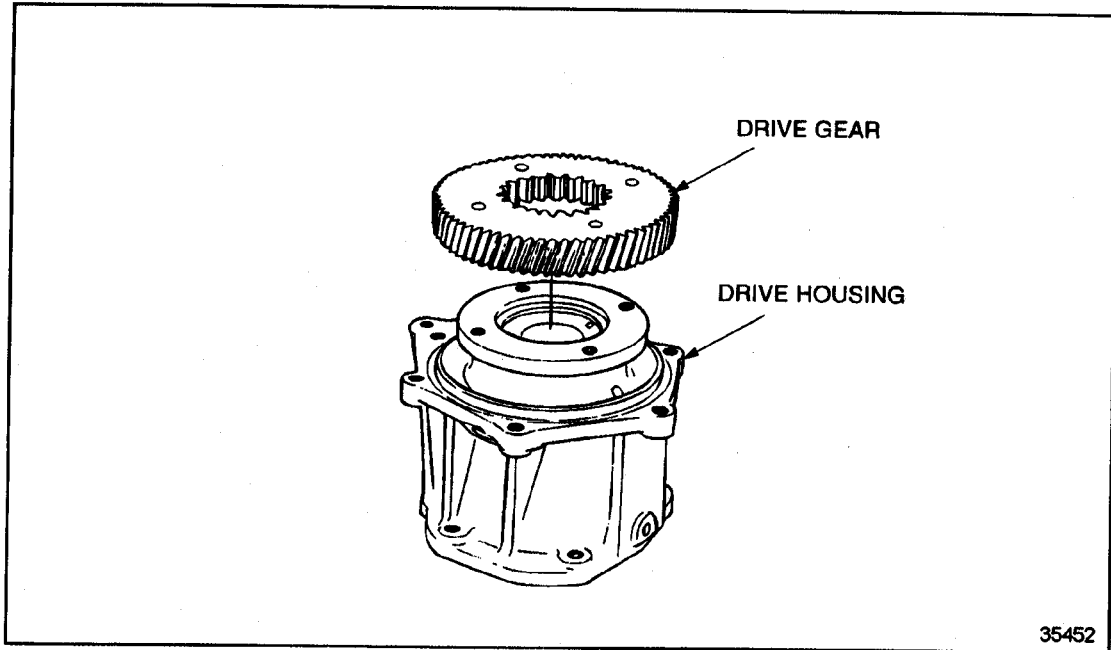

Figure 10-33 Air Compressor Drive Shaft Installation (Former Design)
19. Install the drive gear to the shaft. See Figure 10-33.